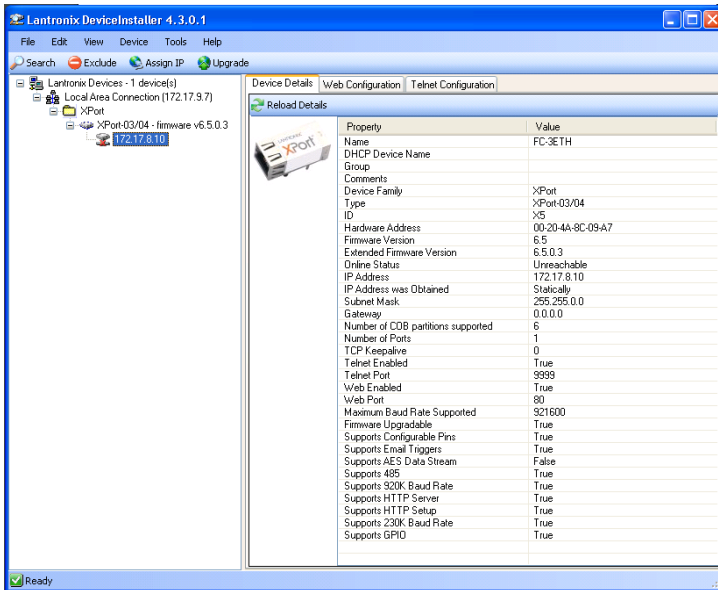

Figure 4: Device Details
Figure 4 shows a device found on the network, with the IP addresses assigned at the factory. The hardware address is an individual permanent address assigned to a particular device on the network. The hardware address is found on the product label inside the unit.
**Note:** Click on a device to view its attributes (see Figure 4).
1. Select the device from the list (see Figure 4), then click the **Assign IP** button or select **Assign IP Address** from the Device menu.